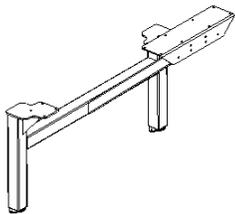

fig. 1
1. Align holes in table angles. (fig.1)